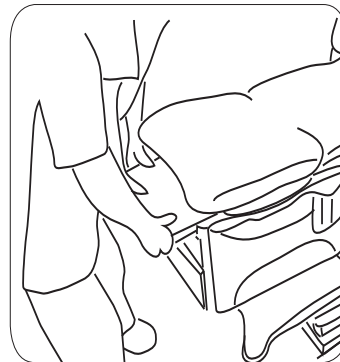

Figure 16. Front Lift Points
16. Position personnel at the front and rear of the table. Front lifting points are the left and right sides of the leg support (Figure 16).